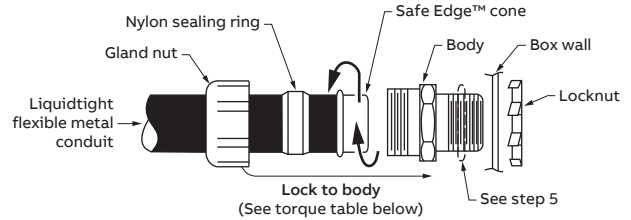

Figure 2
- For 5000, 7000, and 9000 series & PVC coated 3300 series. (Figure 2)